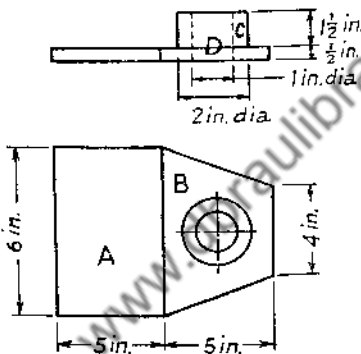

Fig. 61
(5) Find the weight of the casting shown in fig. 61 if it is made of cast iron weighing  $0.26 \text{ lb/in.}^3$